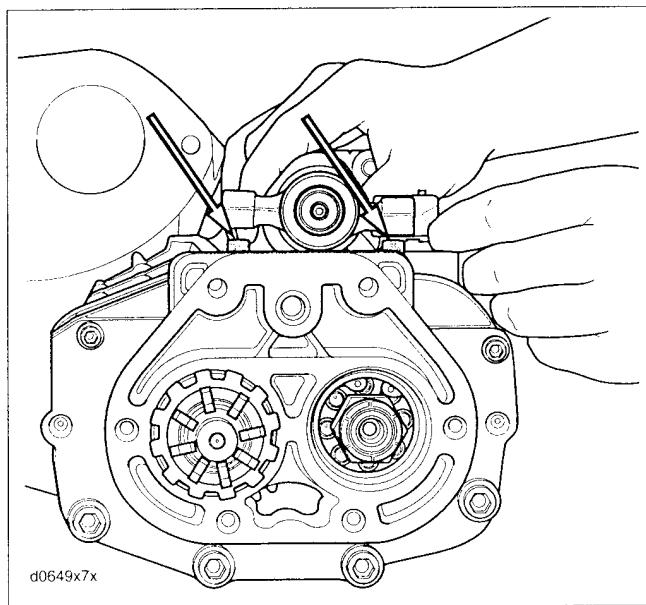

Figure 7-11. Dowel Pin Locations
3. See Figure 7-11. The transmission case has dowel pins which fit into the mounting holes of BOTH support blocks. Align the cam assembly by positioning the support blocks on the dowel pins. Install support block bolts and tighten to 84-108 in-lbs (9.5-12.2 Nm).